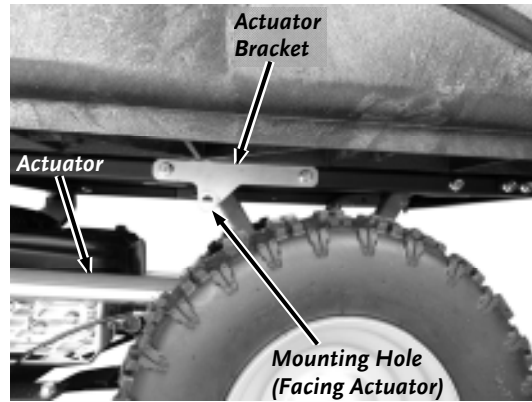

Figure 18
1. For the following steps the Actuator Bracket must be positioned on the right hand side of the Frame with the mounting hole towards the Actuator (**Figure 18**).